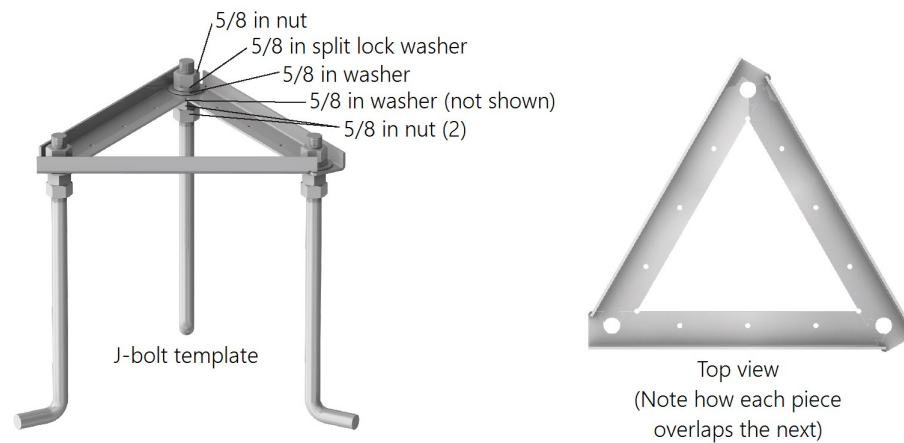

FIGURE 7-2. J-bolt template assembly
2. Assemble the J-bolt template as shown in FIGURE 7-2 (p. 10). Begin by threading two 5/8-inch nuts onto each J-bolt, followed by a 5/8-inch washer. Next, place a template piece over the J-bolt, followed by another 5/8-inch washer and a 5/8-inch split lock washer. Thread a third 5/8-inch nut onto the J-bolt just until the bolt is even with the top of the bolt. Once all three J-bolts are assembled, slide them together as shown in FIGURE 7-2 (p. 10). Align each J-bolt so the angled portion is pointing outward and tighten the lower nuts to secure the assembly.